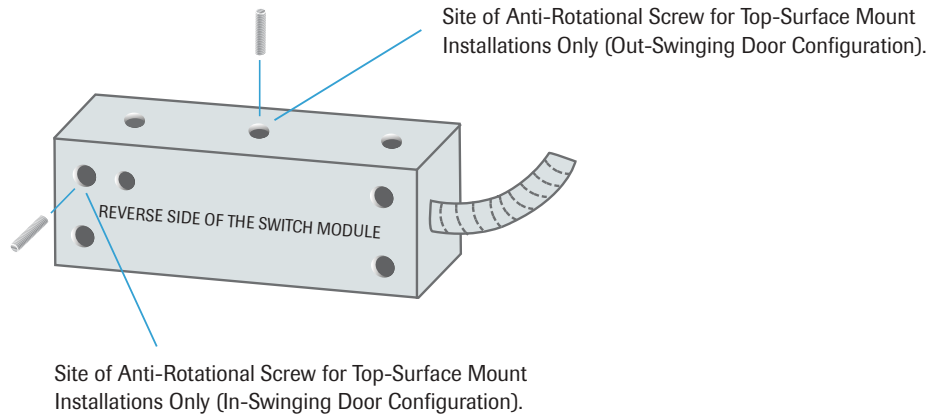

Figure 4a
switch may be used to establish that all mounting holes for the switch will fall within the door frame area while respecting the maximum gap between modules. (**Fig. 4a**) The distance between the module surfaces when finally mounted can be up to 1/8". At the mount location on the frame, insure that there is no interference within the perimeter of the switch or for its cable.
**Take precautions to avoid the magnetic attraction of sharp tools and to avoid pinching fingers between the magnet and ferrous metals or other magnets.** The magnet module should be aligned directly below the switch module (**Fig 4a**). A template has been provided to assist the vertical and horizontal positioning. The plastic spacers are 1/16" thick; two can serve to achieve this spacing by filling this gap precisely. Affix the template border onto the door at 1/8" below the switch module. Temporarily position the magnet on its template area and determine if spacers are required between the magnet and door in order to bring the final vertical plane into alignment.
Insert the Removal-Tamper magnet and then the Removal-Tamper plug into the 3/8" hole at the face of the switch module (**Fig. 4a**). NOTE: The Magnet Spacer is not used in this installation. Check that the gap between modules is less than 1/8" and that there is no interference between the switch module and swinging door. Insure that the screws are seated and that the modules are securely fastened. The mechanical installation of the modules is complete (**Fig. 5**).